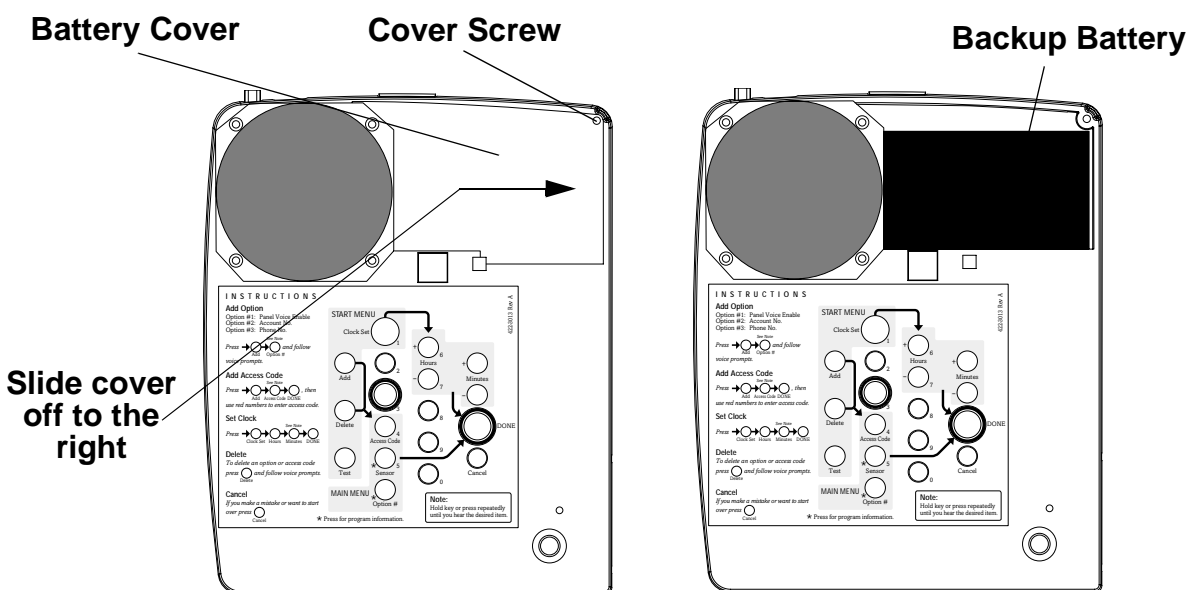

Figure 3. Replacing the backup battery
2. Remove the battery cover screw and cover. (See Figure 3)